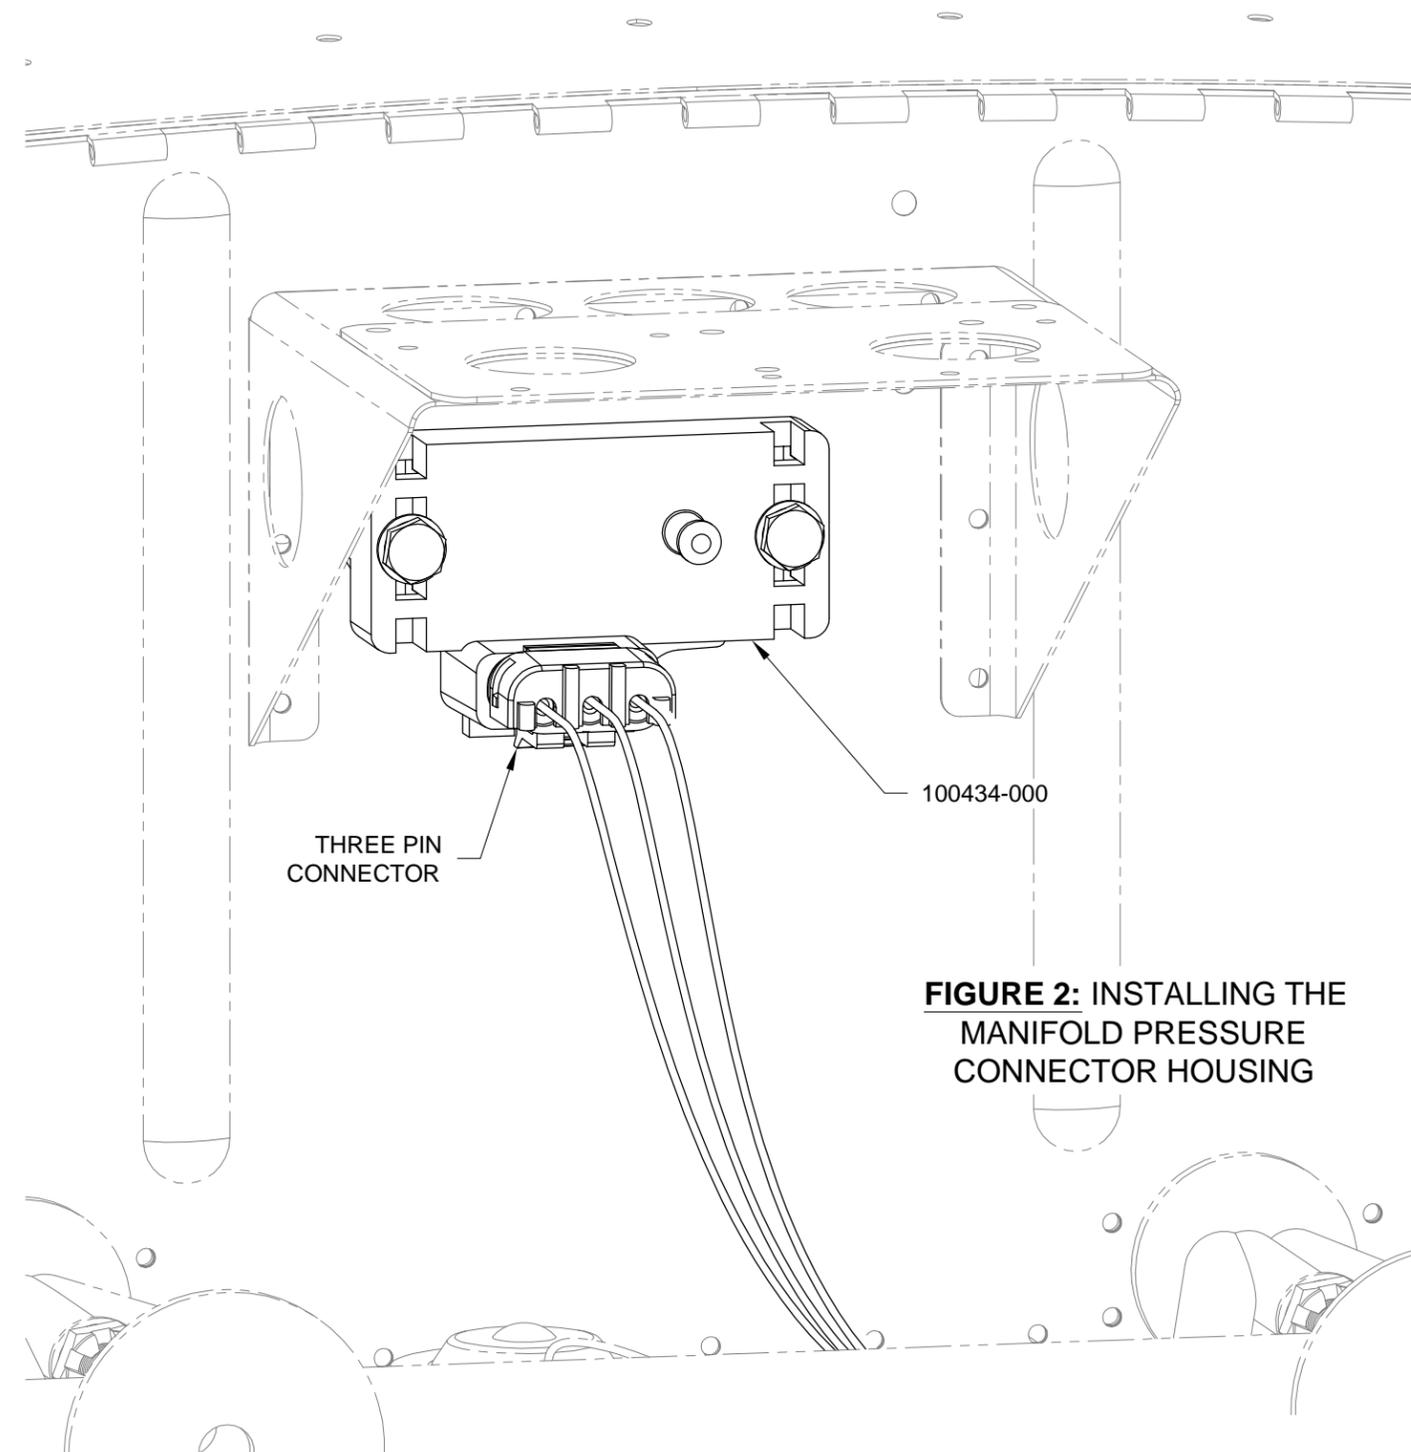

FIGURE 2: INSTALLING THE MANIFOLD PRESSURE CONNECTOR HOUSING
Step 3: Install the three pin connector from Step 2 into the 100434-000 Manifold Pressure Sensor as shown in Figure 2.